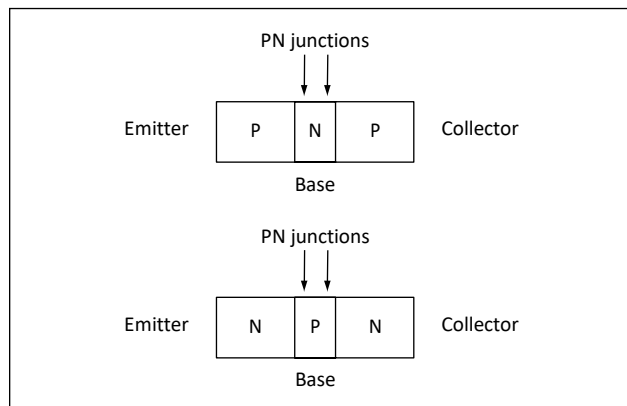

Figure 10-206. Transistor.
The transistor is a three-terminal device primarily used to amplify signals and control current within a circuit. [Figure 10-206] The basic two-junction semiconductor must have one type of region sandwiched between two of the other type. The three regions in a transistor are the collector (C), which is moderately doped, the emitter (E), which is heavily doped and the base (B) significantly less in its doping. The alternating layers of semiconductor material type provide the common commercial name for each type of transistor. The interface between the layers is called a junction. Selenium and germanium diodes previously discussed are examples of junction diodes. Note that the sandwiched layer or base is significantly thinner than the collector or the emitter. In general this permits a “punching through” action for the carriers passing between the collector and emitter terminals.